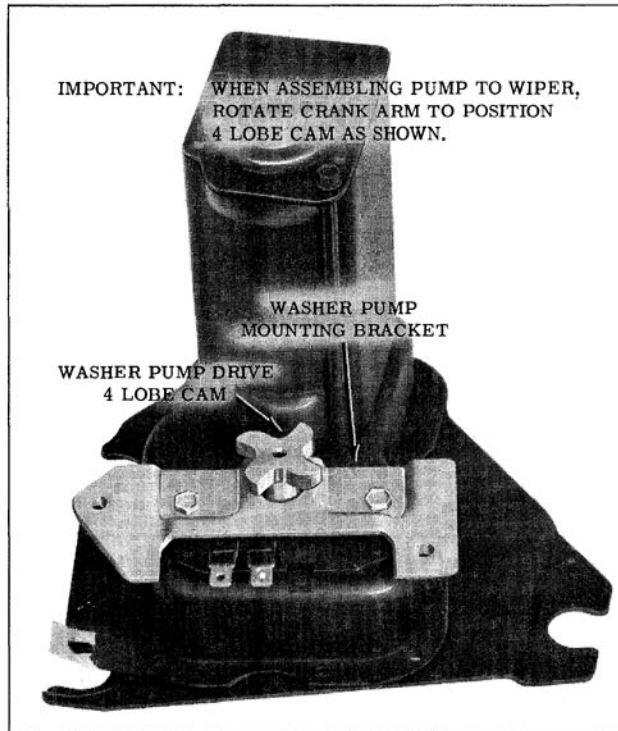

Fig. 13-125 Four Lobe Cam
2. Remove 4 lobe cam as required. (Fig. 13-125) The cam is pressed on the shaft but can be wedged off by using two screwdrivers between cam and plate.